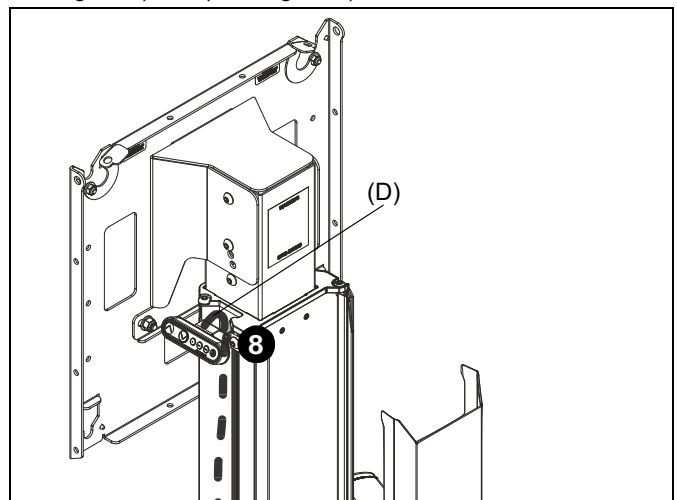
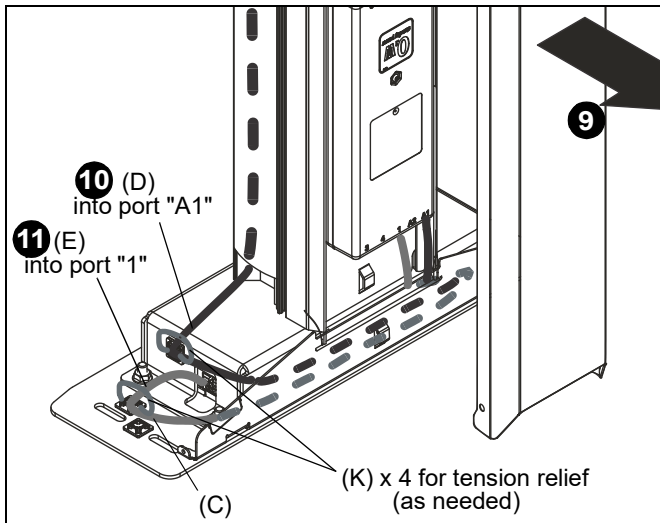
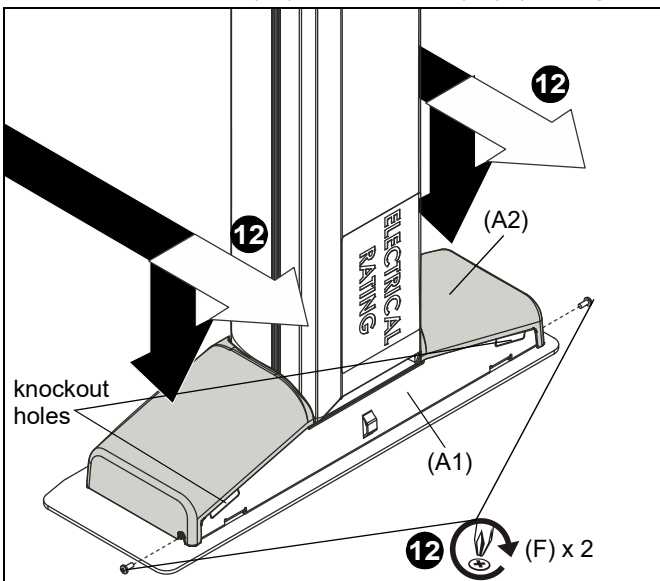

Figure 5
Figure 6
Figure 7
7. Secure control pad (D) into control pad bracket (S). (See Figure 5)
**NOTE:** Control pad may also be attached to bottom of display using double-sided tape (U) after display has been installed.
8. Route control pad cable (D) through side channel. (See Figure 5) and (See Figure 6)
9. Remove back cover to expose control box. (See Figure 6)
10. Route control pad cable (D) behind bottom back cover (A1) and into port A1 on control box. (See Figure 6) and (See Figure 7)
11. Route motor cable (E) behind bottom back cover (A1) and into port 1 on control box. (See Figure 6) and (See Figure 7)
**NOTE:** Use cable ties (K) and pre-installed cable clips to provide tension relief.
**NOTE:** Knockout holes can be created on A1 bracket for another cable routing option. (See Figure 7)
12. Slide lower cover (A2) onto column assembly (P) and use two 8-32 x 3/8" Phillips pan machine screws (F) to secure bottom back cover (A1) to lower cover (A2). (See Figure 7)